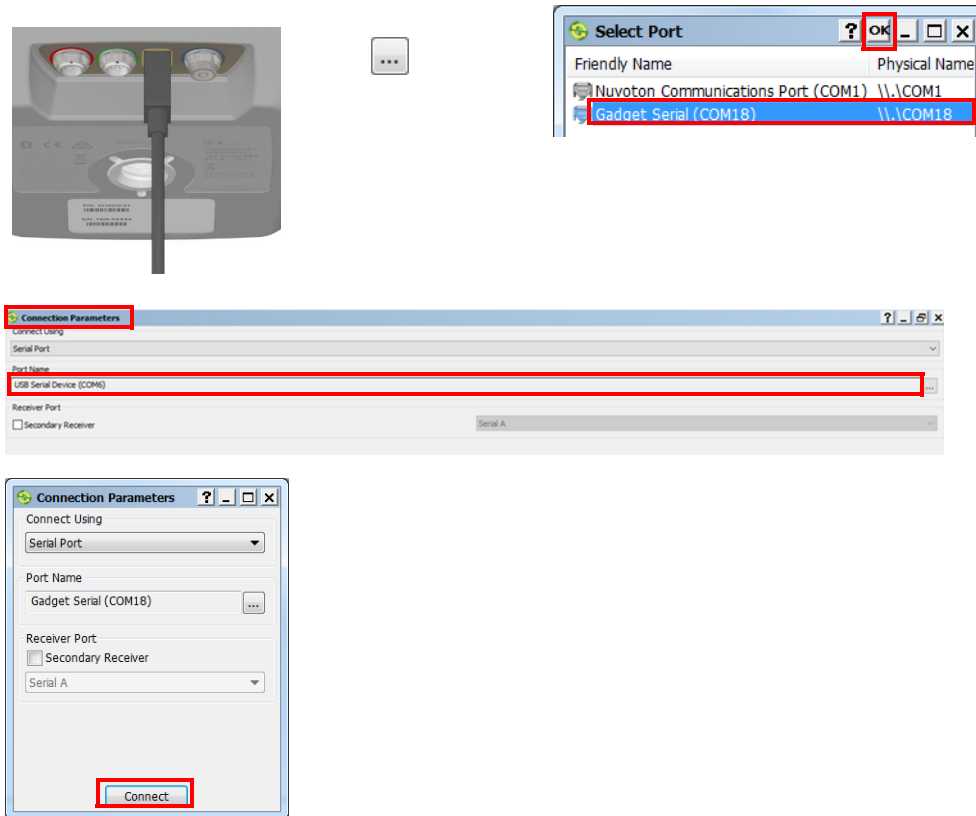

Figure 5-2: Connection Parameters/Select Port Screens
1. Connect the receiver to a computer using a Micro-USB cable (Figure 5-2).
7. Click the  button. The **Select Port** screen appears (Figure 5-2).
The **Select Port** window shows Gadget Serial (COM18). This item could be a **USB Serial** device like **(COM5 or COM6 or COMX)** as is appears on your system. Not the **Gadget Serial (COM18)** that is shown in Figure 5-2.